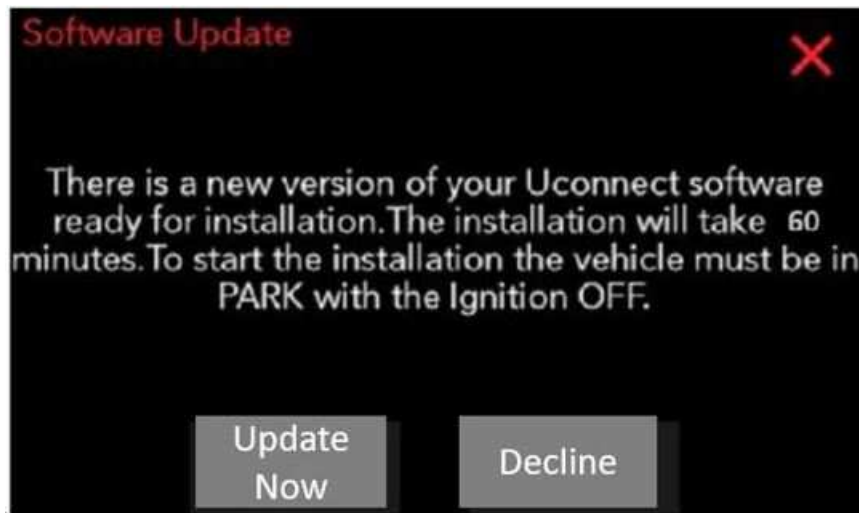

Fig. 7
**NOTE:** The ignition does not have to be turned off to perform this updated (Fig. 7) .
13. Once the system has verified there is an available update, press the “Update Now” button. Make sure the vehicle is in park, **DO NOT** turn off the ignition (Fig. 7) .